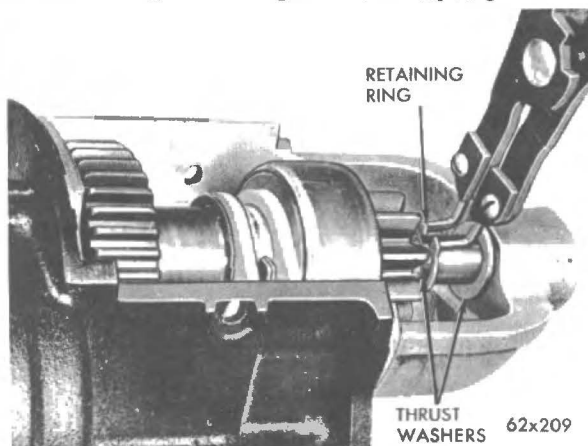

Fig. 15 Removing Pinion Shaft Retainer Ring
(20) Release the retainer ring at the front of the pinion shaft. (See Fig. 15).
(6) Install the driven gear snap ring (See Fig. 15).
(7) Install the pinion shaft retaining ring (See Fig. 15). Make sure the ring fits tightly in the shaft groove.